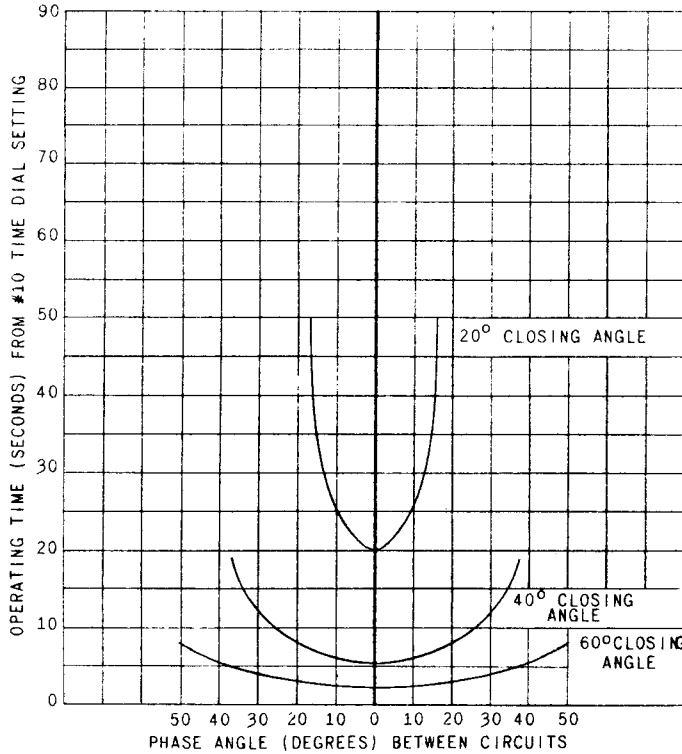

Fig. 4 (K-6400151-3) Typical Time-Phase Angle Curve with Rated Voltage Relay Type IJS52E1
Typical time vs phase-angle curves are shown in Figs. 4 and 5 for 60 cycle relays. The Model 12IJS52E1 relay has a standard closing angle setting of 20 degrees and has its drag magnet adjusted to provide 20 seconds time delay from No. 10 time-dial setting for voltages in phase. The closing angle on this relay can be adjusted to angles greater than 20 degrees but with a corresponding decrease in time delay as shown in Fig. 4. The approximate reset time with both coils de-energized is about 40 seconds. The approximate reset time with one coil energized at rated voltage varies from 3 seconds on the 20° setting to 6 seconds on the 60° setting with #10 T.D.S.
3. With both coils connected to a 115 volt source with zero displacement, check that pickup time agrees with values given in Figs. 4 or 5 plus or minus 10 percent.